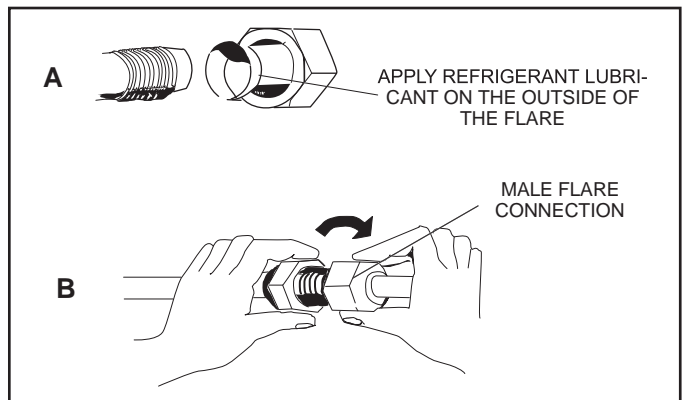
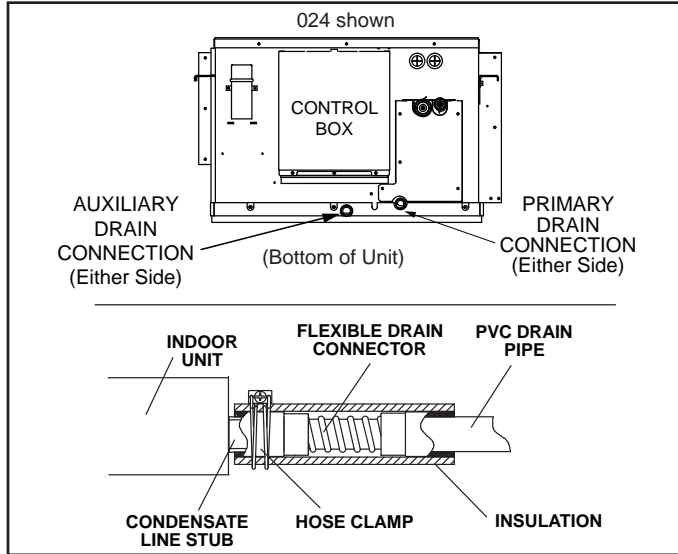

Figure 5. Making Connections at Indoor Unit (Male to Female Connection)
Figure 10. Condensate Drain Connection
6. If the unit is being installed in an application that includes a sheet rock (plasterboard) ceiling, it is required that an access panel be installed in a suitable location. This will also allow access for future maintenance (requirement of Lennox warranty program). Access is required during the commissioning process to test the condensate disposal system (See figures 10, 11 and 12), to check the electronic expansion valve and associated flare nuts (See figure 5), and to check the local disconnect.
5. Apply recommended HFC-410A refrigerant lubricant to the outside of the field-provided flared line sets (figure 5 -- A).
6. Align the union tube and flared refrigerant lines with each other, then tighten the flare nuts lightly at first to obtain a smooth match (figure 5 -- B).
1. Use the provided hose clamp to secure the provided flexible condensate drain connector and insulating sleeve to the drain line stub on the side of the indoor unit. See figure 10. **NOTE** - Take care not to over-tighten the hose clamps this may damage the drain line stub.